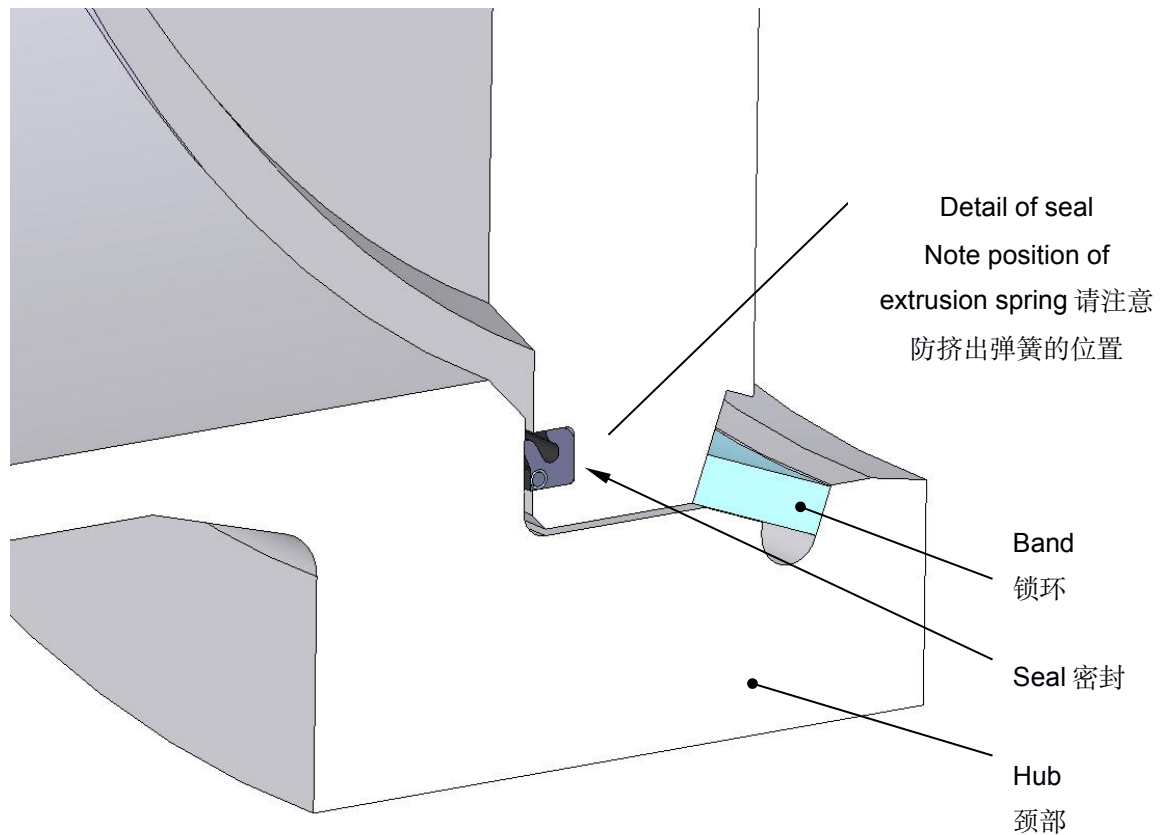

Fig 9.0 – Seal Detail (关于密封) .
- 2 To refit the seal, present the seal to the groove with the energised lip of the seal protruding outwards (reference Fig. 9.0) and press the seal into the door seal groove at the top (12 o'clock position). Then press the seal into the bottom 6 o'clock ensuring that the seal is central in the groove. The seal should then be fitted at the 3 o'clock and again at the 9 o'clock position before working the seal evenly into the door seal groove. 安装密封时，请注意不要装反，密封的唇要向外（见 9.0），用手先在 12 点位置将密封按进去，然后在 6 点位置按，接着在 3 点位置和 9 点位置，最后将其他部位按进去。